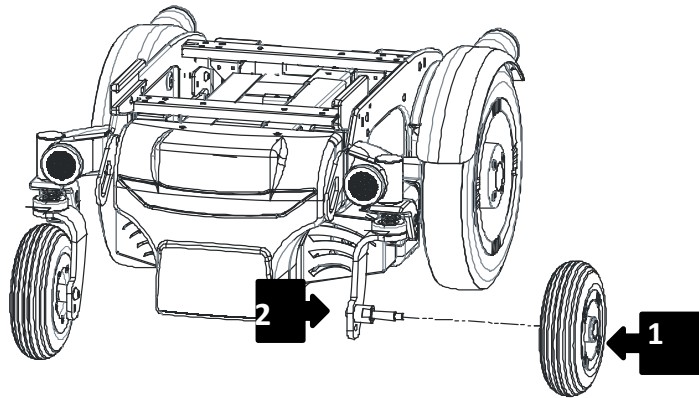

Figure 44
Disassemble the castor unscrewing the bolt shown in Figure 44 by locking the nut (1) with an open-end wrench of 13 mm and unscrew the bolt (2) with an allen wrench of 6 mm.